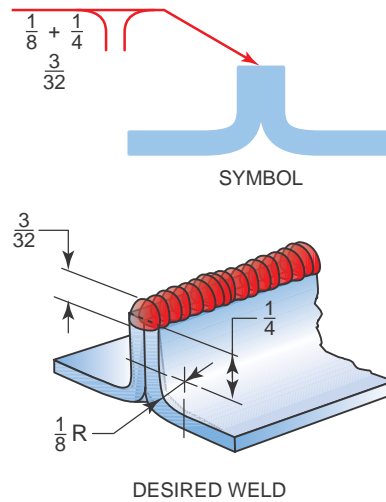

FIGURE 5-32 Applying dimensioning to flare welds.
- Dimensions of flange welds are shown on the same side of the reference line as the weld symbol and are placed to the left of the symbol, Figure 5-32. The **radius** and height above the point of tangency are indicated by showing both the radius and the height separated by a plus sign.